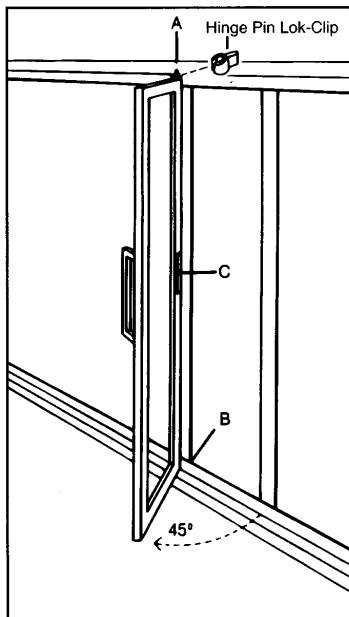

FIGURE 5
6. Select Lok Clip with proper thickness to fill space between top of door and outer frame **(Figure 5)**.